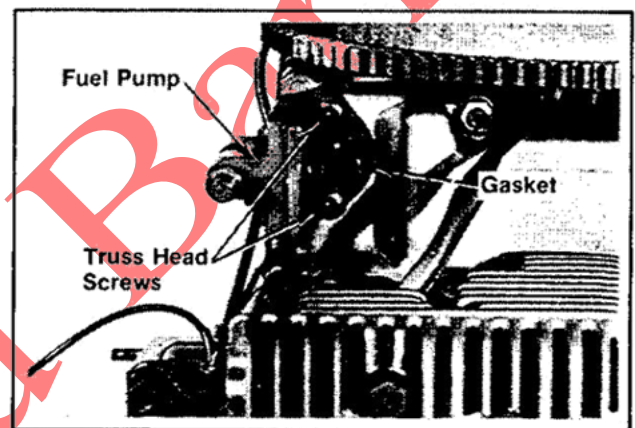

Figure 9-17. Removing Fuel Pump.
1. Remove the truss head screws, fuel pump, and gasket. Refer to Figure 9-17.